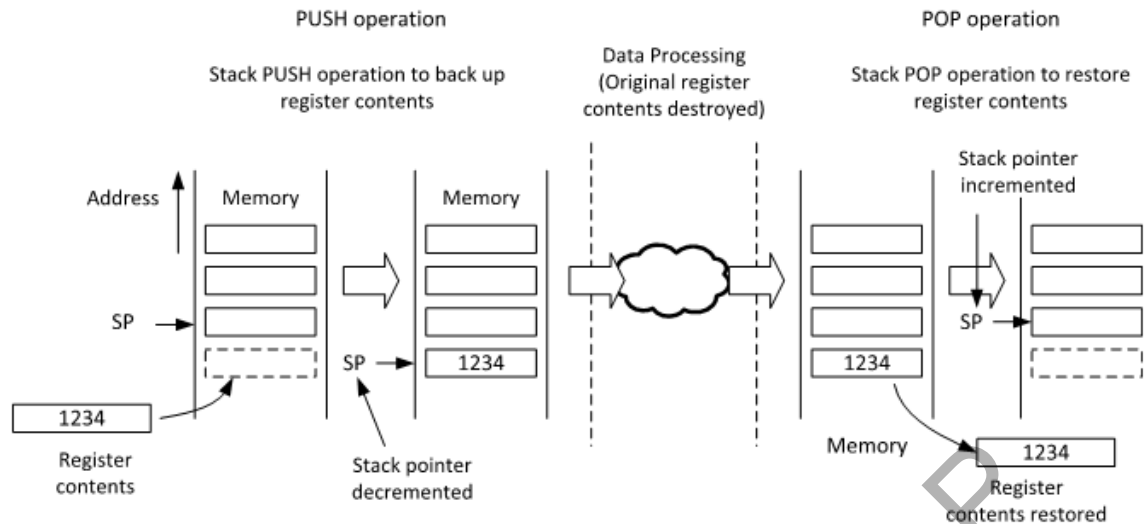

Figure 20: Stack PUSH and POP
- During operations, the SP points to the memory location where the last data was pushed to the stack as shown in figure 20